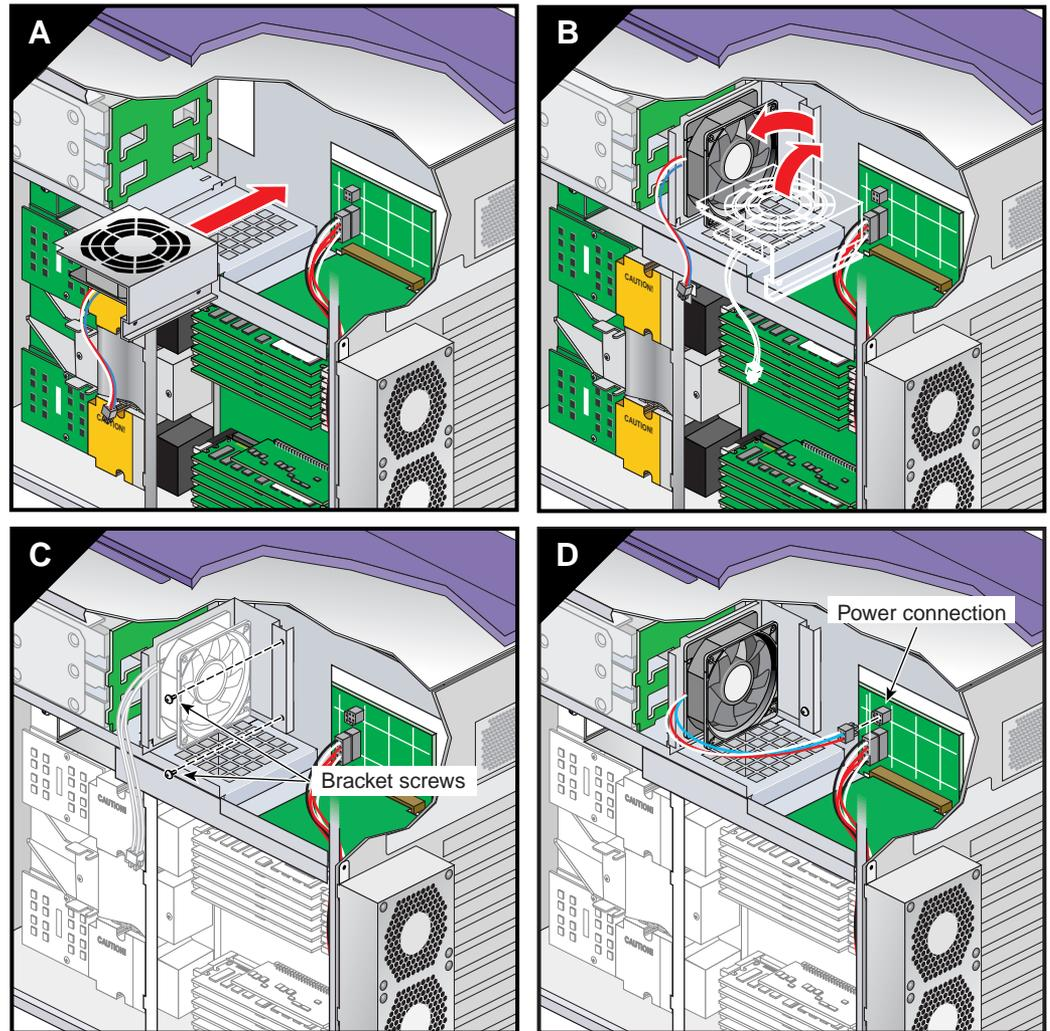

Figure 3-31 Installing the Hard Disk Drive Fan
3. Insert the new fan assembly into the enclosure (see Figure 3-31).
4. Align the screw holes in the fan bracket with the holes in the enclosure frame. Ensure that the front edge of the fan bracket has engaged with the fan bracket hook. Then install the screws that secure the fan bracket to the enclosure (see Figure 3-31).
5. Connect the disk drive fan power cable to the interface board (see Figure 3-31).